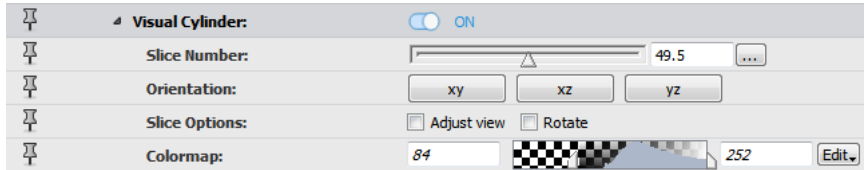

Figure 10.6: Visual Cylinder Port of *Cylinder Correlation Module*
1. Enable the *Visual Cylinder* port (see Figure 10.6).